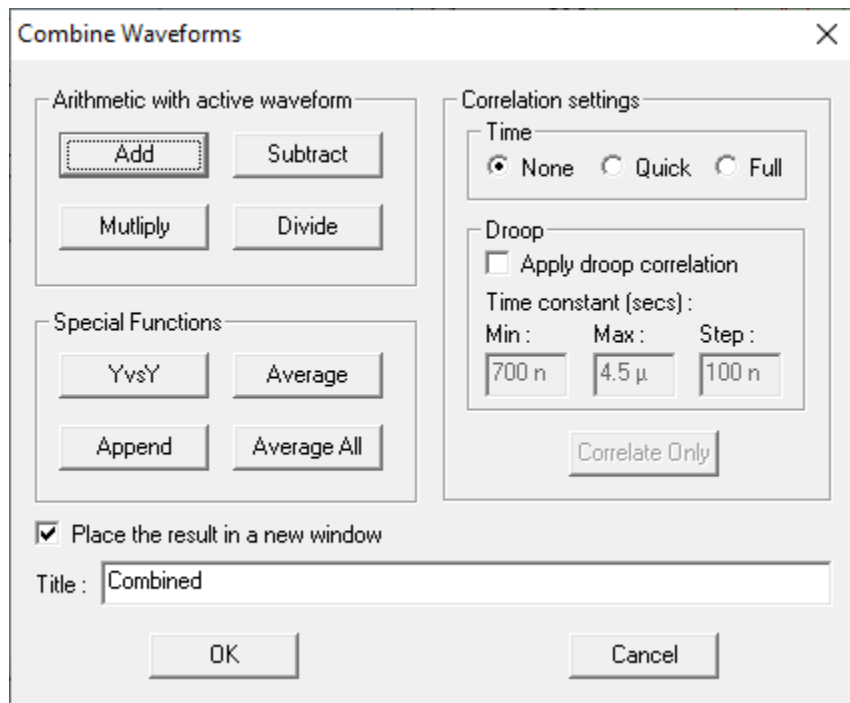

Figure 6-7 Waveform Combine dialog
2. Open the Combine Waveforms dialog (Figure 6-7) by selecting the Combine toolbar button, pressing [F7], or selecting the Analysis | Combine menu item.